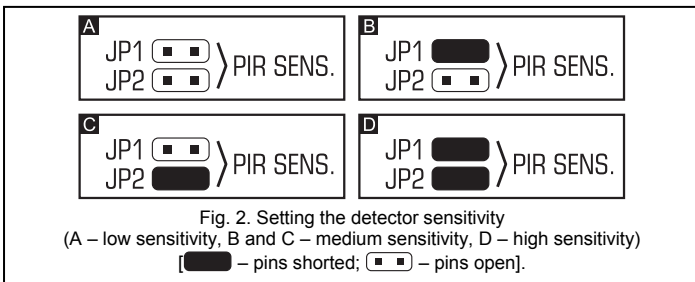

Fig. 2. Setting the detector sensitivity (A - low sensitivity, B and C - medium sensitivity, D - high sensitivity) [■ - pins shorted; □ - pins open].
- PIR SENS.** - setting detector sensitivity (see Fig. 2);